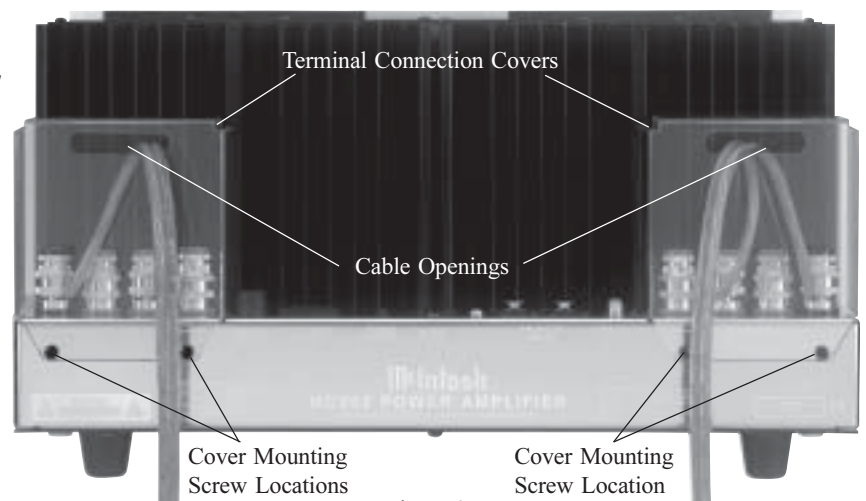

Figure 9
- Attach the supplied Terminal Connection Covers with the four Mounting Screws (6-32 x 1/4 inch Phillips Head) to the Rear Panel of the MC252 Amplifier. Refer to figure 9.
*Note: The illustration in figure 9 is for the purpose of installing the Terminal Connection Covers, showing the opening on the covers for the Loudspeaker Cables to exit the MC252. It is not intended to show which terminal connections to use.*